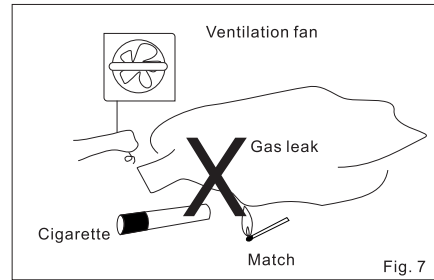

Fig. 7
- If a gas leak is found, close the main gas valve, open up all windows, and call your dealer. Do refrain from turning an electric switch on or off, lighting a match, or using a lighter (Fig. 7).